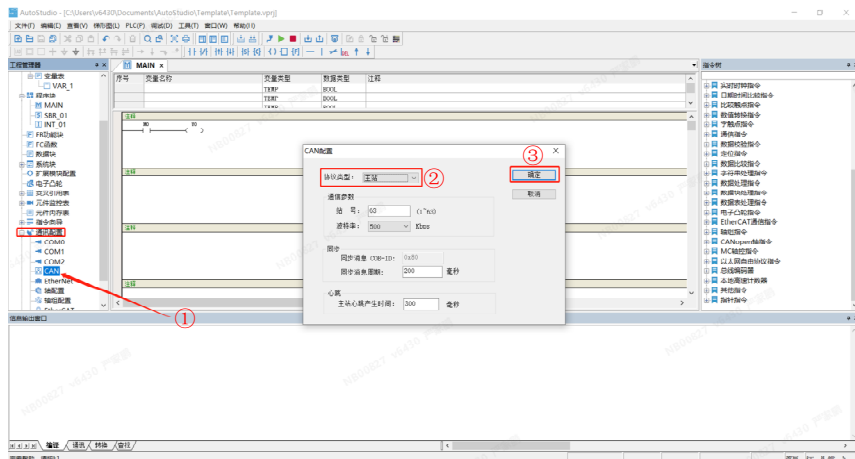

Figure 3-10 CAN configuration
Step 2: Find the communication configuration tab in the project manager on the left, double-click the CAN option, set the protocol type as the master station in the CAN configuration window, set the correct baud rate and station number, and click OK, as shown in Figure 3-10.